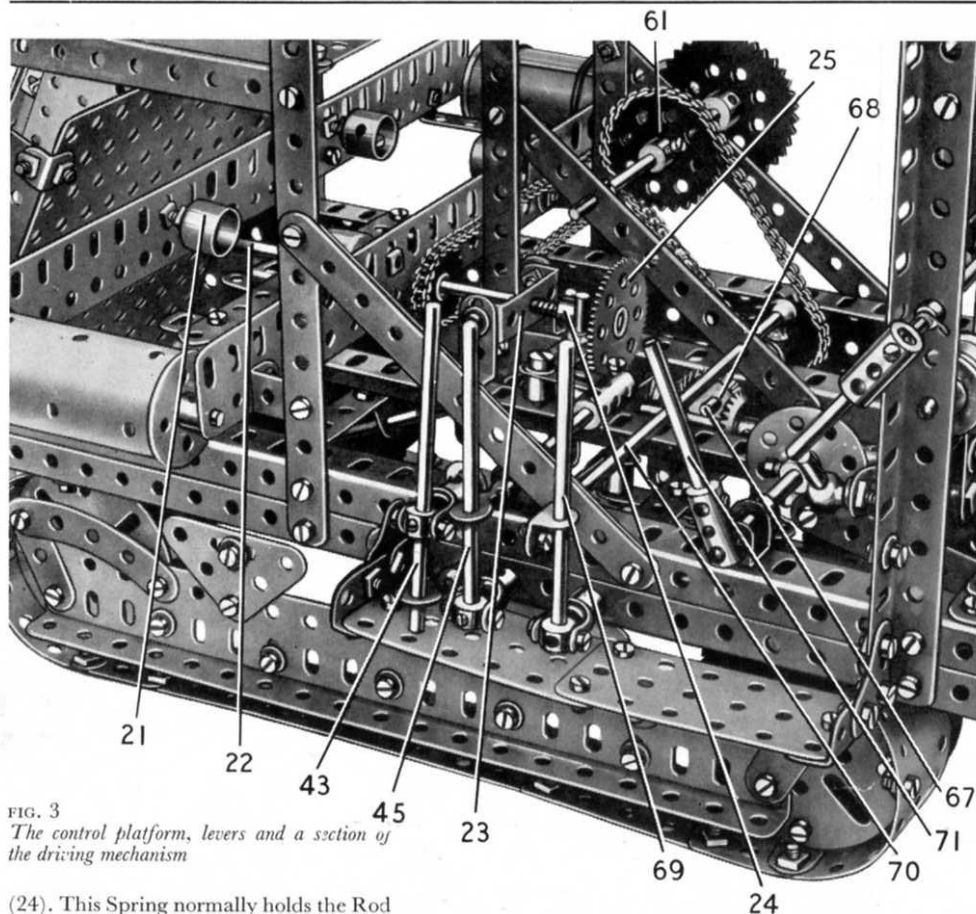
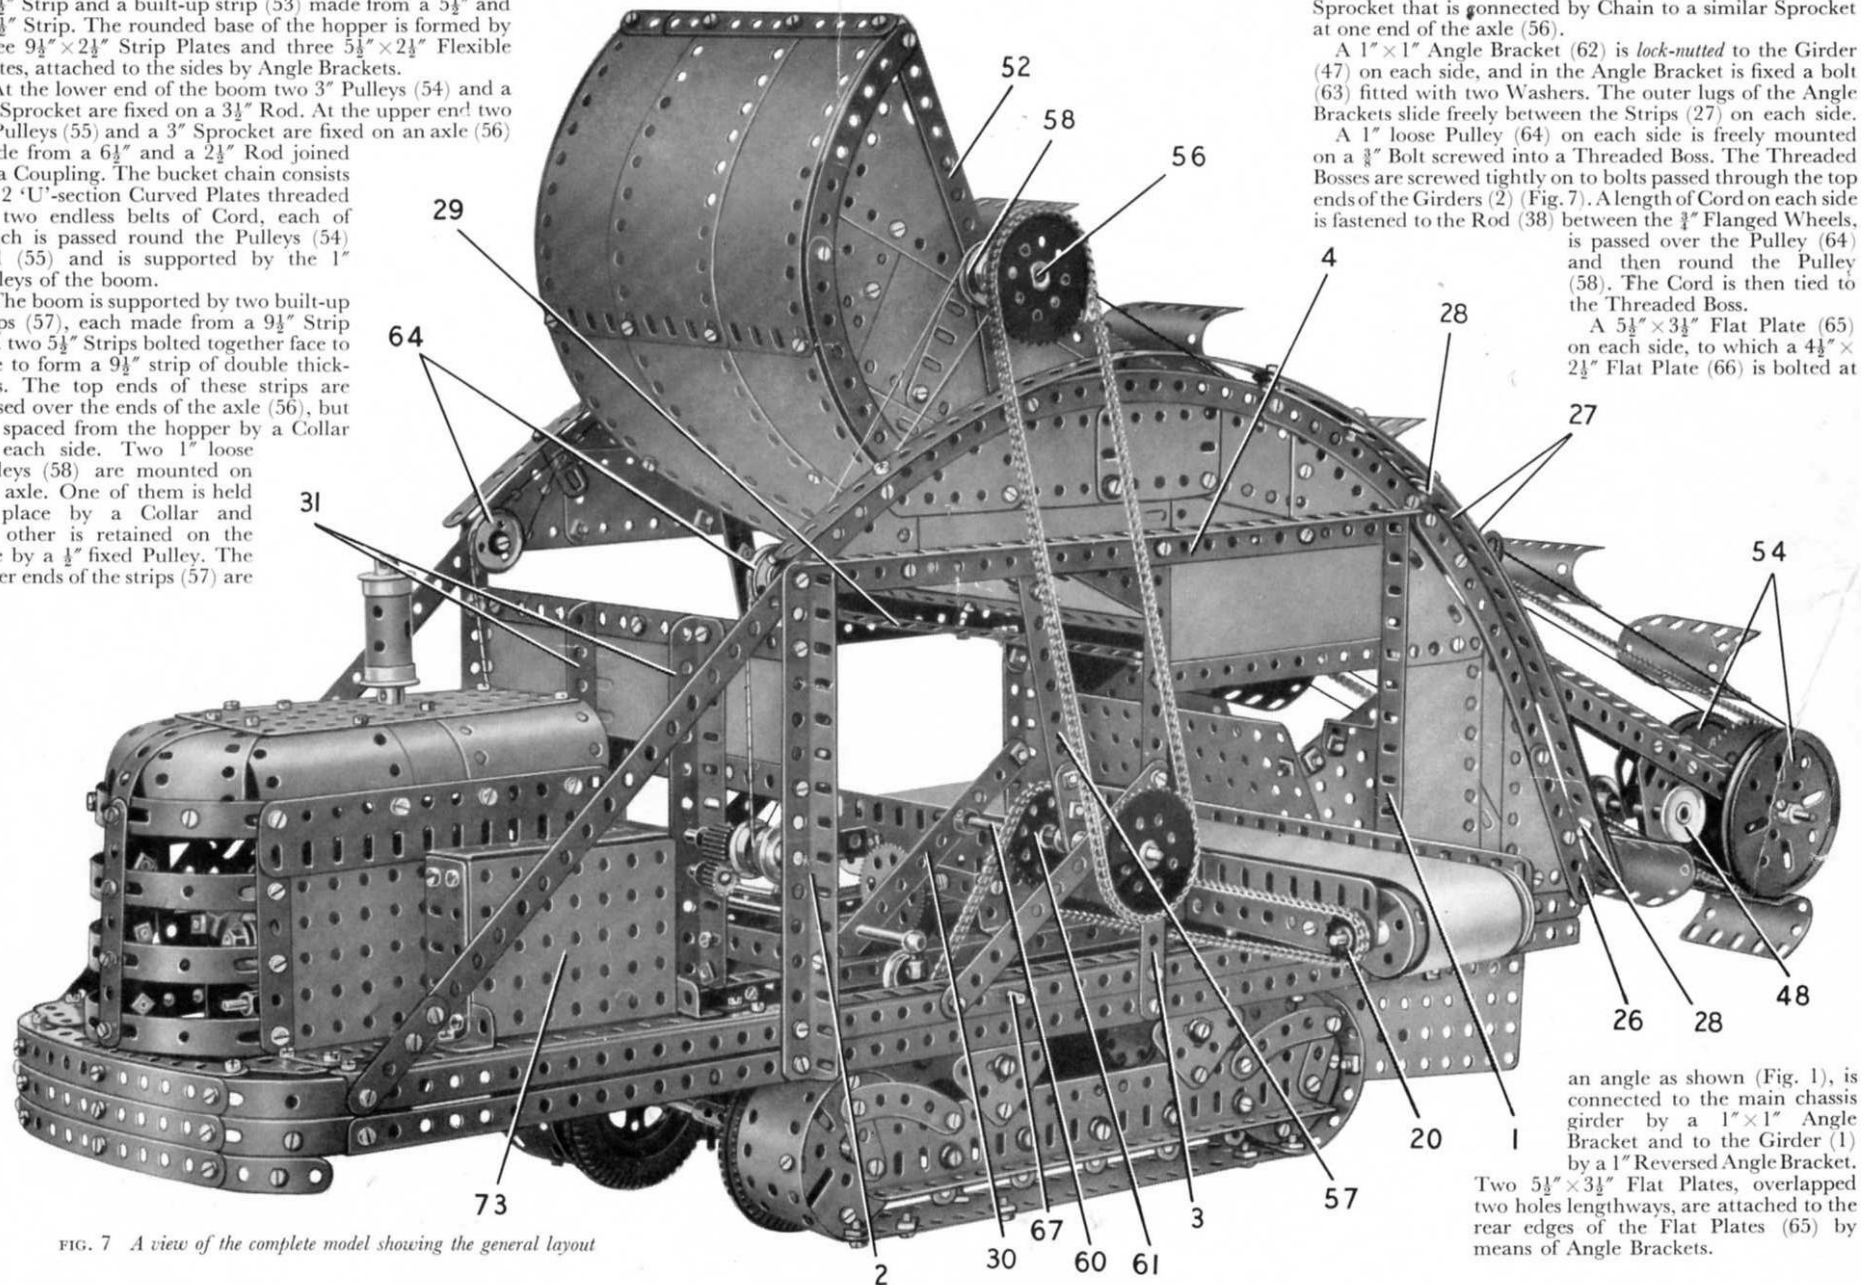

FIG. 3
FIG. 7 A view of the complete model showing the general layout
Each side-member of the chassis consists of two $2\frac{1}{2}$ " Angle Girders arranged to form a channel section girder by bolting to them two $7\frac{1}{2}$ " Angle Girders (1) and (2) and a $7\frac{1}{2}$ " Strip (3) (Fig. 7). The top ends of the Girders (1) and (2) and the Strip (3) are connected by bolting to them a $12\frac{1}{2}$ " Angle Girder (4). The side-members are connected by two built-up strips (5) and (6) (Fig. 2), each made from two $5\frac{1}{2}$ " Strips overlapped seven holes. Two similar built-up strips (7) and (8) are fixed in position, and a further built-up strip (9) (Fig. 3) is bolted across the chassis. The strip (9) is made from two $4\frac{1}{2}$ " Strips overlapped three holes. Two $18\frac{1}{2}$ " Angle Girders (10) are bolted to the strips (5) and (6) as shown.
The Motor switch is operated by a lever (71) (Figs. 3 and 6) formed by a 2" Rod in a Coupling. The Coupling is fixed on a $3\frac{1}{2}$ " Rod mounted in Double Brackets bolted to the chassis, and the Rod carries a Bush Wheel to which a built-up strip is *lock-nutted*. This strip consists of two $5\frac{1}{2}$ " Strips placed face to face and extended by a $3\frac{1}{2}$ " Strip that overlaps the $5\frac{1}{2}$ " Strips by three holes, and it is *lock-nutted* also to a Bush Wheel on a $2\frac{1}{2}$ " Rod. The Rod is held by Collars in Flat Trunnions bolted to the Girders (10), and a $2\frac{1}{2}$ " Strip (72) (Fig. 2) is fixed across the Bush Wheel. Another $2\frac{1}{2}$ " Strip is *lock-nutted* to the Strip (72) and is pivoted at its upper end on a $\frac{3}{8}$ " Bolt screwed into a Handrail Support that is *lock-nutted* to an arm of the Motor switch.
The conveyor frame consists of two $12\frac{1}{2}$ " Flat Girders, one of which is attached to the Girders (1) (Fig. 7) by $1" \times \frac{1}{2}"$ Angle Brackets while the other is similarly attached to the Strips (3). A $3\frac{1}{2}" \times \frac{1}{2}"$ Double Angle Strip (19) (Fig. 2) is bolted between the Flat Girders at one end.
The main conveyor rollers are formed by $1\frac{1}{8}"$ Flanged Wheels pressed into Cylinders, and each is fixed on a 4" Rod mounted in the Flat Girders. The Rod that supports the driving roller carries a $\frac{3}{4}"$ Sprocket (20) (Fig. 7), and two $2\frac{1}{2}"$ Driving Bands are stretched round this roller. The belt can be made from a length of cloth or strong paper joined together at its ends. The supporting rollers (21) (Fig. 3) are Chimney Adaptors, each of which is free to turn on a $\frac{1}{2}"$ Bolt and is held against the head of the Bolt by two nuts screwed against each other.
The Sprocket (20) is driven by a 1" Sprocket on a $6\frac{1}{2}"$ Rod (22) (Fig. 3). This Rod is supported in the conveyor frame and in a $1\frac{1}{2}" \times \frac{1}{2}"$ Double Angle Strip (23) that is attached to $1" \times \frac{1}{2}"$ Angle Brackets bolted to the Girders (10). A Compression Spring is fitted on the Rod between Double Angle Strip (23) and a Collar
(24). This Spring normally holds the Rod so that a 57-tooth Gear (25) on it is kept clear of the Pinion (15) (Fig. 8). The Gear and Pinion can, however, be brought into mesh by sliding the Rod, to engage the drive to the conveyor. The movement of Rod (22) is restricted by a Collar placed inside the conveyor frame, and is controlled by a lever (45) (Fig. 3). This lever is a $3\frac{1}{2}$ " Rod fixed in a Swivel Bearing attached to the chassis by a Pivot Bolt. The lever carries as shown a Rod and Strip Connector fixed on a $3\frac{1}{2}$ " Rod that slides in a Double Bracket bolted to the chassis. A Strip Coupling on the $3\frac{1}{2}$ " Rod is connected by a $\frac{3}{8}$ " Bolt to one arm of a Bell Crank, and this is mounted freely on a Pivot Bolt fixed in one of the Girders (10). The other arm of the Bell Crank carries a Threaded Pin that engages between the Collar (24) and the Gear (25).
A 1" loose Pulley (64) on each side is freely mounted on a $\frac{3}{8}"$ Bolt screwed into a Threaded Boss. The Threaded Bosses are screwed tightly on to bolts passed through the top ends of the Girders (2) (Fig. 7). A length of Cord on each side is fastened to the Rod (38) between the $\frac{3}{4}"$ Flanged Wheels, is passed over the Pulley (64) and then round the Pulley (58). The Cord is then tied to the Threaded Boss.
Drive to the Bucket Chain (Figs. 3, 5, 7 and 8)
A 4" Rod (67) (Fig. 3) is mounted in one of the Girders (10) and in one side of the chassis frame. The Rod carries a $\frac{3}{4}$ " Bevel Gear (68), a 1" Sprocket connected by Chain to the $1\frac{1}{2}$ " Sprocket (61), and a $\frac{3}{4}$ " Flanged Wheel. A Compression Spring is fitted on Rod (67) between the Girder (10) and the Flanged Wheel, and this normally holds the Rod in such a position that Bevel Gear (68) is clear of Bevel Gear (17). The two Bevel Gears can be meshed by moving a lever (69). The lever is a $3\frac{1}{2}$ " Rod held in a Swivel Bearing fixed on a Pivot Bolt bolted to the side of the chassis. An Angle Bracket passed over the lever is *lock-nutted* to a Rod and Strip Connector on a $6\frac{1}{2}$ " Rod (70) and a Handrail Coupling engages the $\frac{3}{4}$ " Flanged Wheel on Rod (67).
The side of the engine cover seen in Fig. 7 consists of a $5\frac{1}{2}" \times 2\frac{1}{2}"$ Flat Plate and a $5\frac{1}{2}"$ Flat Girder bolted at one end to a $3\frac{1}{2}"$ Strip and at the other end to a $3\frac{1}{2}"$ Flat Girder. The other side is formed by a $5\frac{1}{2}"$ Strip, a $5\frac{1}{2}"$ Flat Girder, a $3\frac{1}{2}"$ Flat Girder, a $3\frac{1}{2}"$ Strip and a $5\frac{1}{2}"$ Braced Girder attached to the $5\frac{1}{2}"$ Strip by two Hinges. A $5\frac{1}{2}"$ Angle Girder extended by a $2\frac{1}{2}"$ Angle Girder is bolted to the lower edge of each side of the engine cover, and these Girders are used to attach the structure to the chassis frame. At one side of the engine cover a box structure (73) is fitted (Fig. 7).